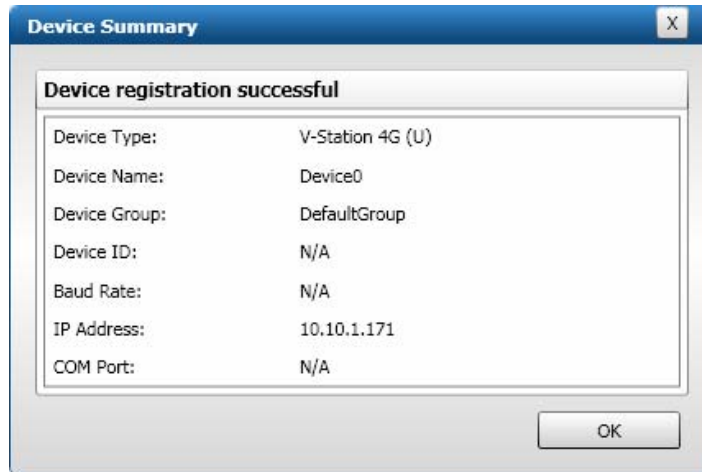

Figure 6-4: Device Summary Dialog Box
9. Click **Register**. A Device Summary is displayed (see Figure 6-4).